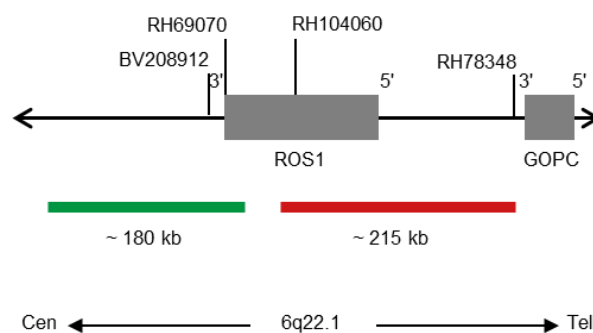

Fig. 1: SPEC ROS1 Probe map (not to scale)
- Digoxigenin-labeled polynucleotides (~0.50 ng/ $\mu$ l), which target sequences mapping in 6q22.1\* (chr6:117,448,964-117,627,255) proximal to the ROS1 breakpoint region (see Fig. 1).
- Dinitrophenyl-labeled polynucleotides (~0.75 ng/ $\mu$ l), which target sequences mapping in 6q22.1\* (chr6:117,659,135-117,871,701) distal to the ROS1 breakpoint region (see Fig. 1).